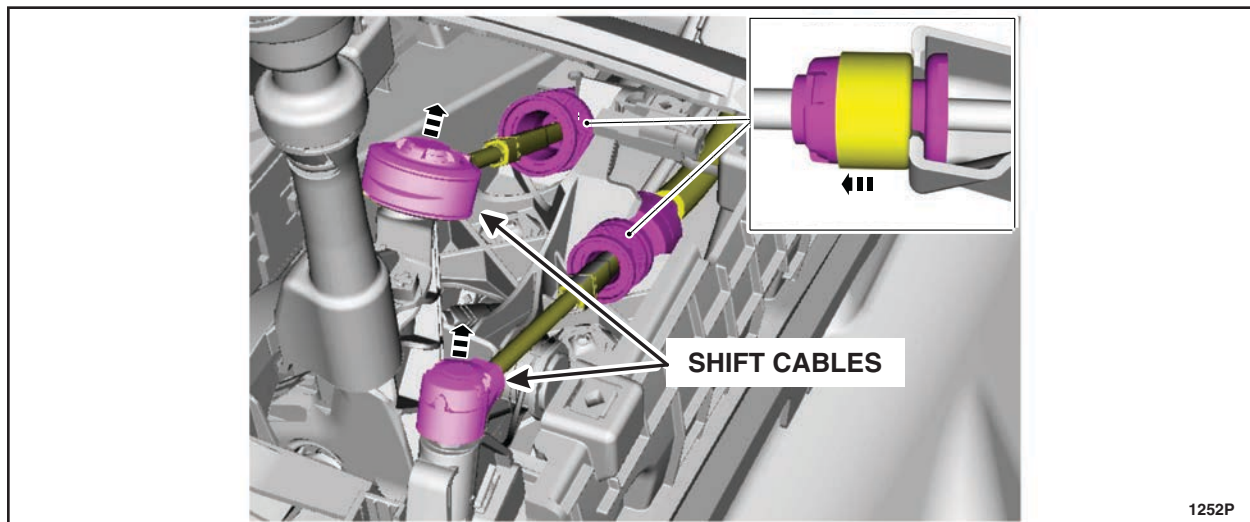

FIGURE 13
24. Remove the shift cables from the gearshift lever. See Figure 13.
13. Install the shift cables onto the gearshift lever. See Figure 13.